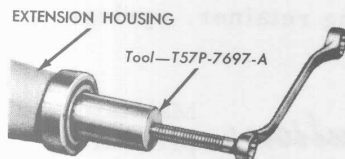

Fig. 46
- ☒ Remove the bushings and the rear seal together when the bushing requires replacement (Fig. 46).